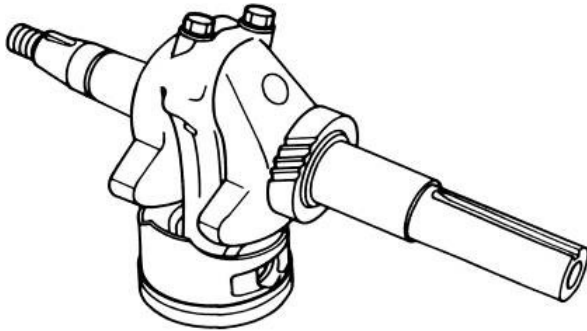

Figure 4-42: Measure Connecting Rod Oil Clearance
2. See Figure 4-42. Place a piece of Plastigauge® on the crankshaft rod journal, assemble the connecting rod and tighten the bolts to 8~10 ft-lb (11.5~13.5 Nm).